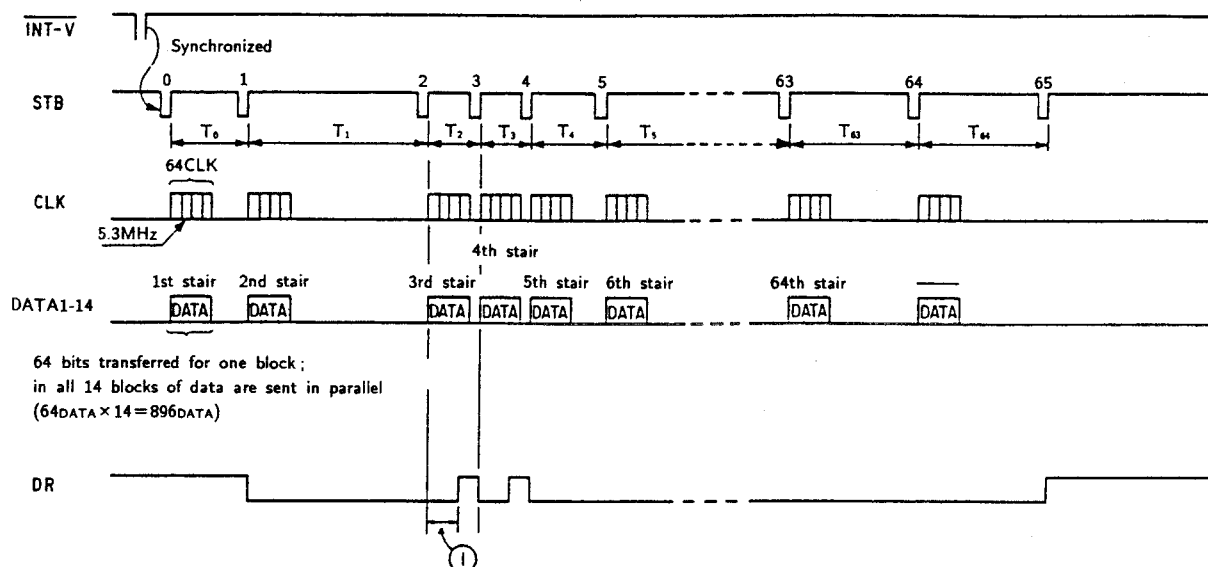

Fig.5-10. Stair Generation
- (i) The data recorded in the video memory, IC103 to 105, in the print operation is input to the IC102 stair data generation circuit by 1H(1 line). [The stair data generation circuit outputs the 6 bits of data recorded in IC102 as one of 64 levels. If the 6-bit data is "3", then DATA "H" is sent to the head during the 1st, 2nd, and 3rd stairs of DATA 1 to 6 in Fig.5-10, but from the 4th stairs and later, the DATA "L" is sent.